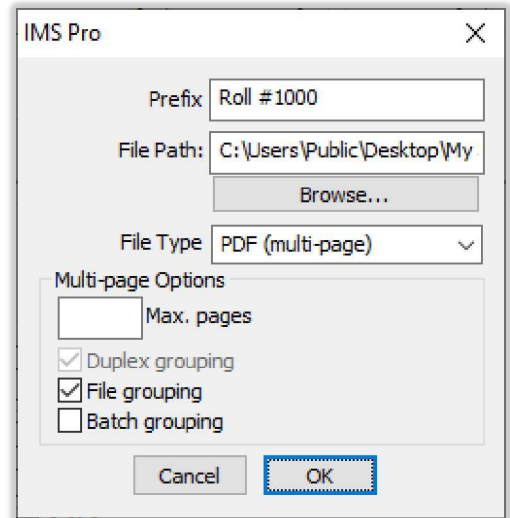

Figure 108
- p. The *IMS Pro* checkbox enables/disables additional features for scanning film. This requires an active SPA membership. If this box is checked, when the *Scan* button is selected the *IMS Pro* window will open. *Figure 108*